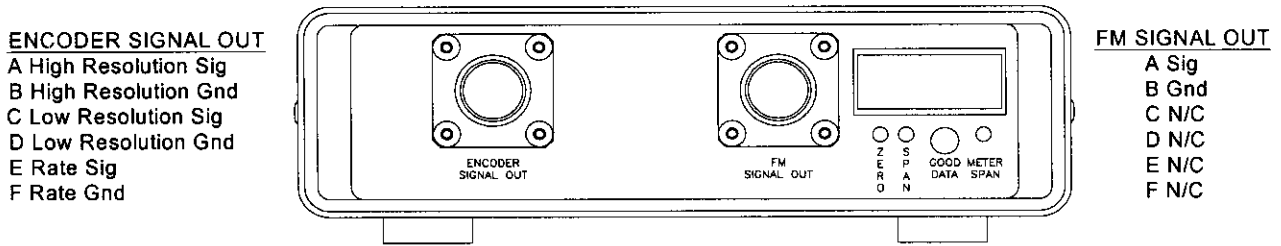

Figure 9a – Model 90330 PT Style Connections, side 1
- Step 1: Connect to the required signal outputs as shown in figure 9a or 9b.